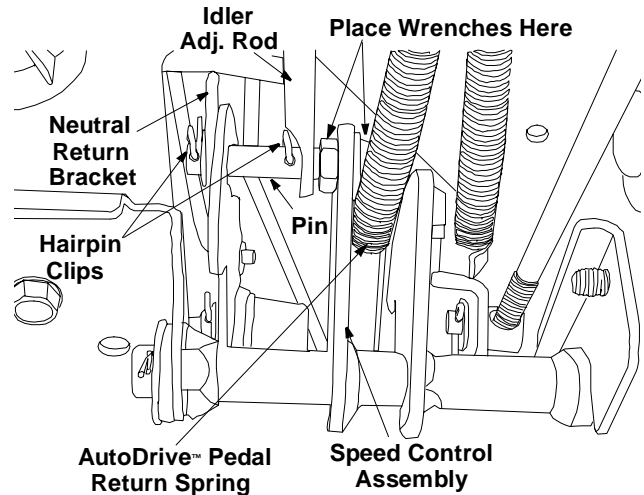

Figure 21
- Locate the speed control assembly on the underside of the steering support bracket. See Figure 21.
- Remove both hairpin clips from the pin which is fastened to the speed control assembly (be careful not to lose the small flat washers found on the pin). See Figure 21.
- Using two 9/16" wrenches, remove the pin from the speed control assembly. See Figure 21.